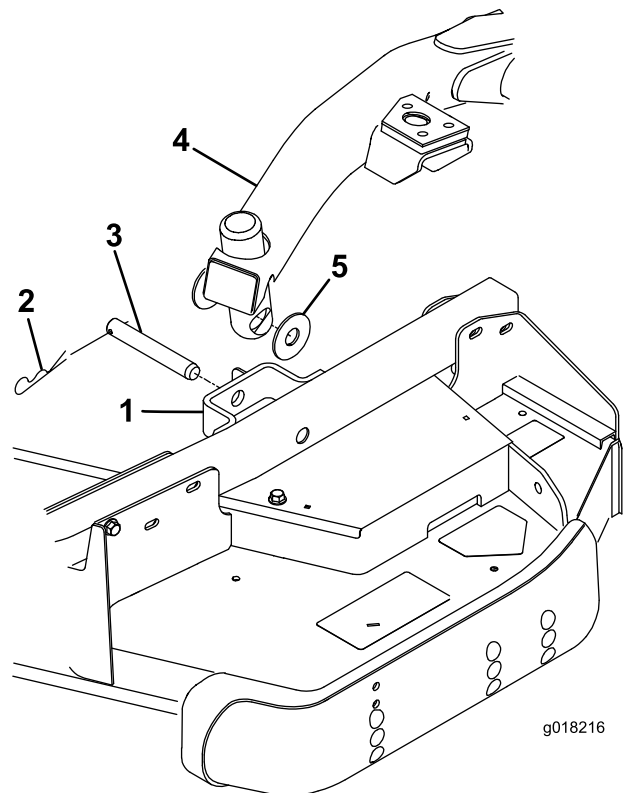

Figure 4
- Remove the (2) thrust washers, clevis pin and hairpin cotter from each castor arm bracket on the cutting unit (Figure 4).
- Press the lift switch forward to the Float position. Push a lift arm down until the holes in the lift arm line up with the holes in the castor arm bracket (Figure 4).
- Secure the lift arm to the castor arm with the (2) thrust washers, clevis pin and hair pin cotter. Position the thrust washers between the lift arm and the castor arm bracket (Figure 4). Insert end of cotter pin into the slot in the castor arm tab to retain cotter pin.